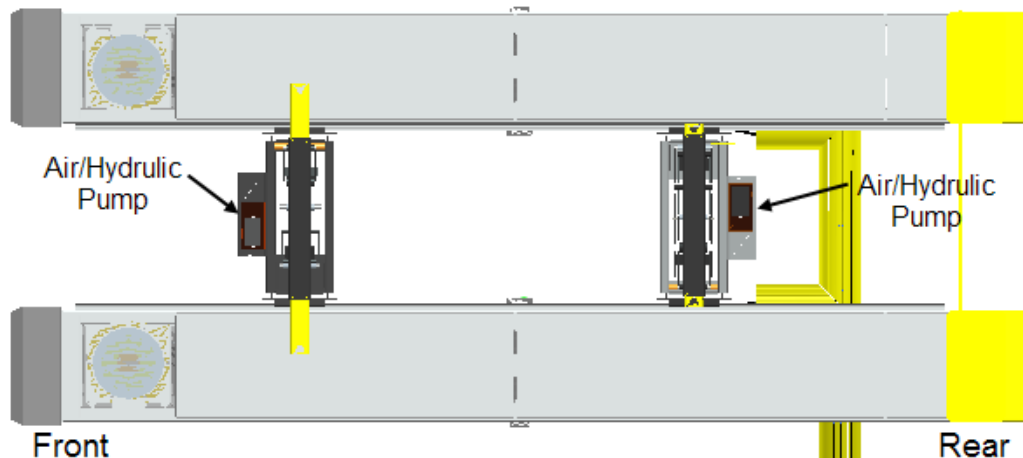

Figure 2-Jackbeam Orientation
Note: The Jackbeam must be positioned on the lift correctly prior to usage. The pump side of the Jackbeam should face the direction included in **Figure 2**.
3. Using a shop crane, forklift or other lifting device raise the Jackbeam and place it in between the runways, orient the Jackbeam with air/hydraulic pump towards outwards (front or rear). See **Figure 2**. Lower the Jackbeam to just above the rail on the inside of the Runway.